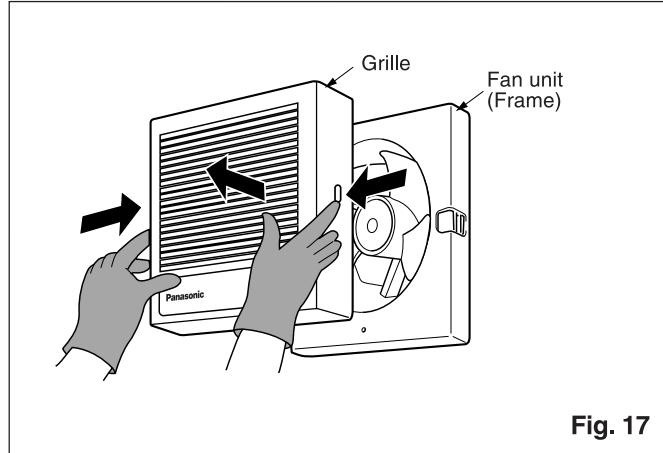

Fig. 17
1. Remove the grille (Hold the grille and press the hooks on each side simultaneously. Pull the grille straight out from the wall.) (Fig. 17)